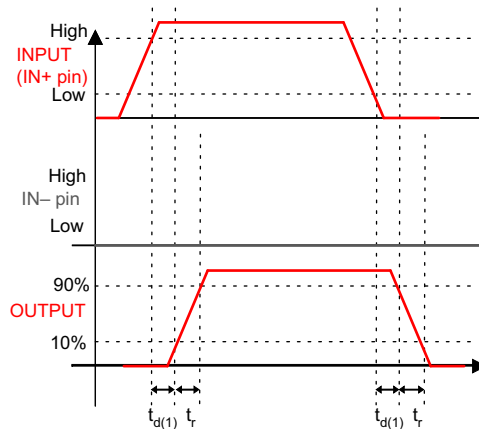
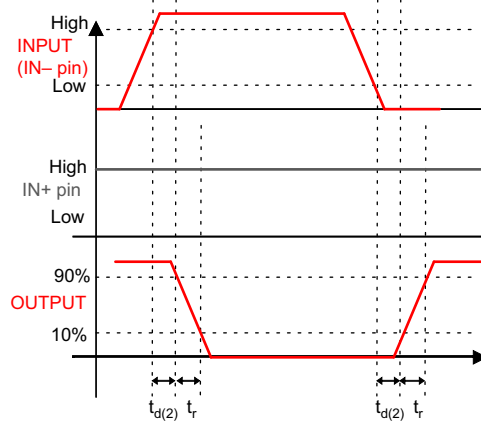

Figure 5-1. Non-Inverting Configuration (PWM Input to IN+ pin (IN– Pin Tied to GND), Output Represents OUTH and OUTL Pins Tied Together in the UCC27511A-Q1)
図 5-2. Inverting Configuration (PWM Input to IN- Pin (IN+ Pin Tied to V_{DD}), Output Represents OUTH and OUTL Pins Tied Together in the UCC27511A-Q1)
$V_{DD} = 12\text{ V}$, $T_A = T_J = -40^\circ\text{C}$ to 140°C , $1\text{-}\mu\text{F}$ capacitor from V_{DD} to GND. Currents are positive into, negative out of the specified terminal. See Figure 5-1, Figure 5-2, Figure 5-3, and Figure 5-4
(1) See timing diagrams in Figure 5-1, Figure 5-2, Figure 5-3, and Figure 5-4.